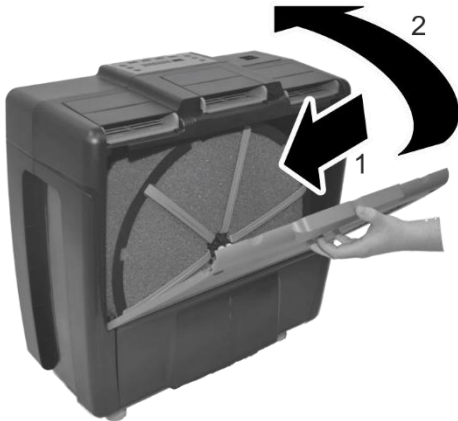

Fig. 19: Closing the discharge grille
4. → Insert the discharge grille into the guides (Fig. 19/1) and press onto the appliance (Fig. 19/2).